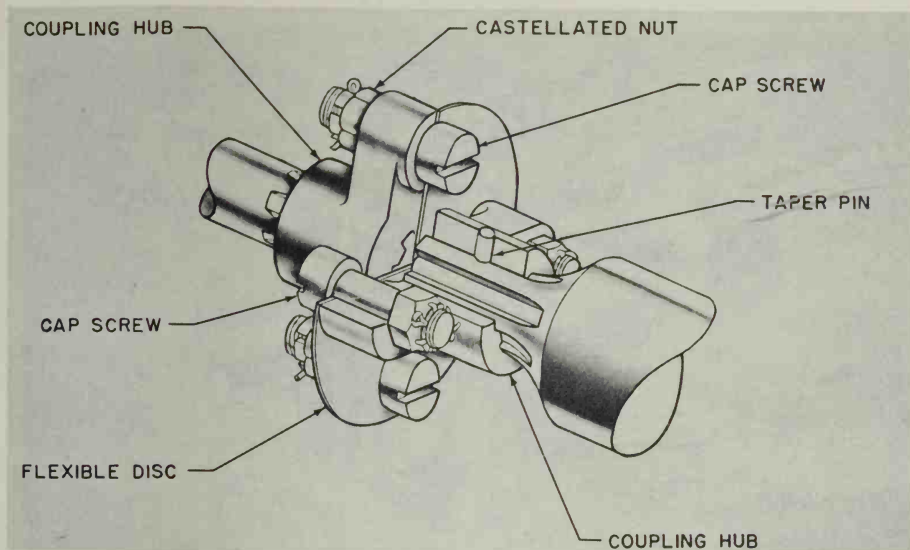

Figure 11-21.—Flexible coupling.
2. The flexible coupling (fig. 11-21), connects two shafts by means of a metal disk. Two coupling hubs, each splined to its respective shaft, are bolted to the metal disk. The flexible coupling provides a small amount of flexibility to allow for a slight axial misalignment of the shafts.